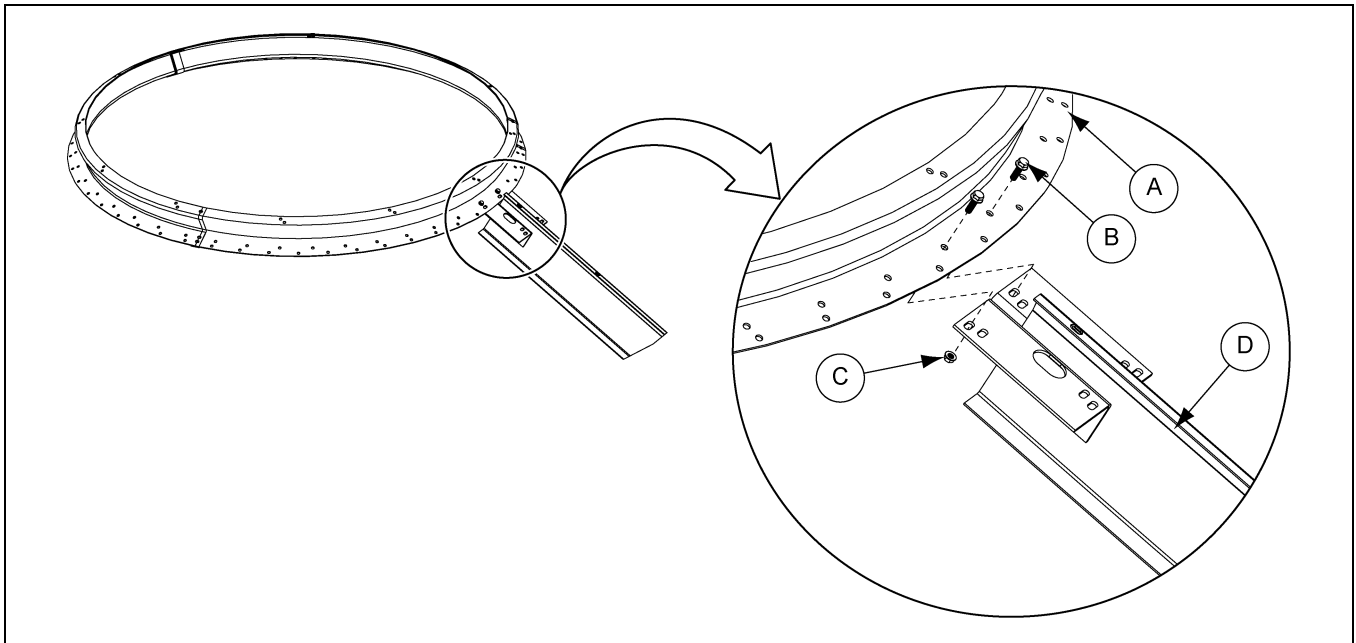

Figure 8I Install the Rafter Assembly to the Center Collar Weldment
1. Attach the rafter assembly (D) to the center collar (A) and align with the proper holes as shown in Figure 8I.
2. Install the flange bolts (B) and flange nuts (C) to secure the rafter assembly (D) to the center collar (A).